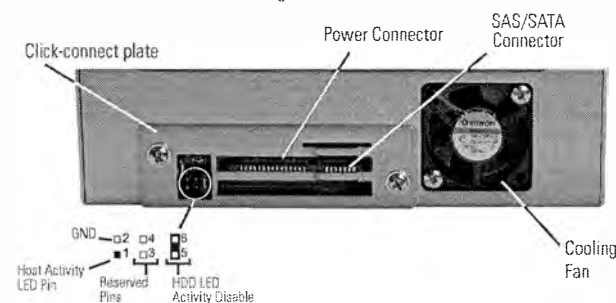

Figure 2 - DX115 Receiving Frame Rear Panel
*Some SATA PC systems/host controllers provide support for the Drive Activity LED feature (refer to the SATA PC system/host controller manufacturer's documentation for further information). The Drive Activity LED can be enabled via host connection (cable not included) to Pin 1 located on Receiving Frame Motherboard (Figure 2). Refer to the SATA PC system/host controller manufacturer's documentation for further information.